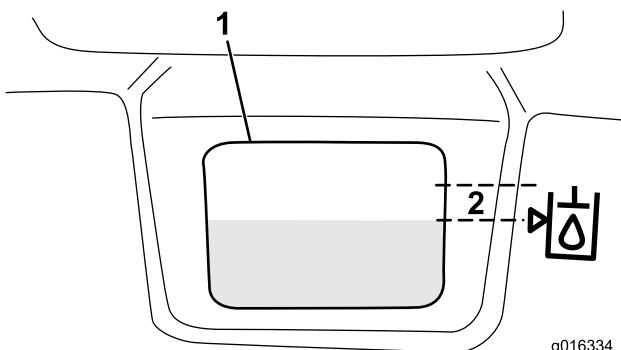

Figure 31
3. Slowly fill the reservoir with the appropriate hydraulic fluid until the level is at or within 6 mm (1/4 inch) of the arrow in the symbol next to the white window in the front of the reservoir (Figure 31). Do not overfill.